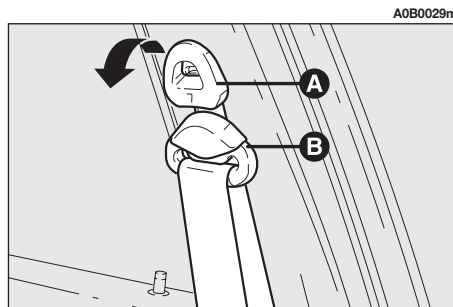
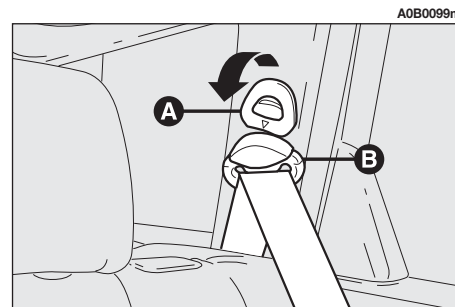

fig. 50
fig. 51
To adjust the seat belt, raise or lower the anchoring device grip (A-fig. 50) of the front (A-fig. 51) or side rear seat belts (Sportwagon versions only), and move at the same time the ring (B) to the most suitable of the set positions.
After adjustment, always check that the slider (B) is anchored in one of the positions provided. To do this, with the button (A-fig. 50) or (A-fig. 51) released, exert a further pressure to allow the anchor device to catch if release did not take place at one of the preset positions.